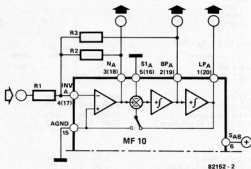

Figure 2. One half of the MF 10 as a 2nd order filter with notch, band and lowpass outputs. With the values shown the circuit performs as per the data sheet.
- Figure 2 shows a mode of operation ideally suited to the actual specifications as laid down in the data sheet.
Figure 2 shows a 2nd order inverting filter with bandpass, lowpass and notch functions. Pay particular attention to the formula shown for the circuit dynamics, (H_{OLP}). These expressions are very important as they determine the swing at each output as a function of the desired Q factor of the 2nd order function. In other words the output voltage level is a function of the Q factor selected. When considering high Q factors, inadequate attenuation of the input results in overthrust distortion (clipping, overdriving the IC circuits).